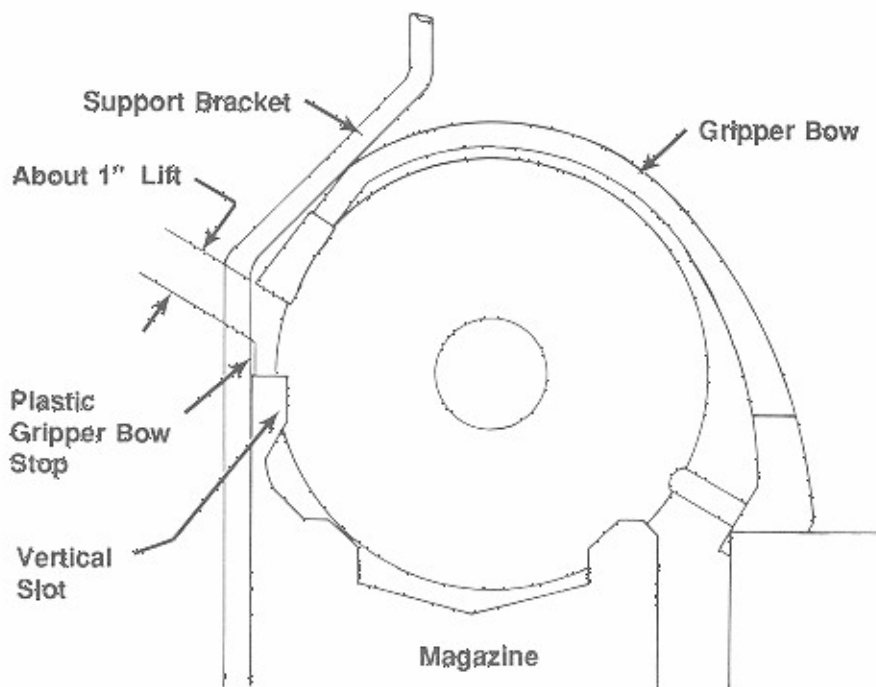

Figure 6-13. Magazine and Transfer Arm Position
2. Using a 5/32-inch Allen wrench in the end of transfer motor shaft, turn motor shaft clockwise until the gripper bow starts to lift the disc out of the magazine (see figure 6-13).